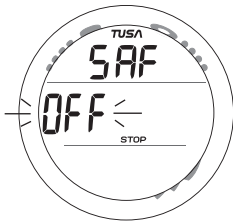

Fig. 52 - SET SAFETY STOP
**SET NORM SAFETY STOP**, information includes (Fig. 52):